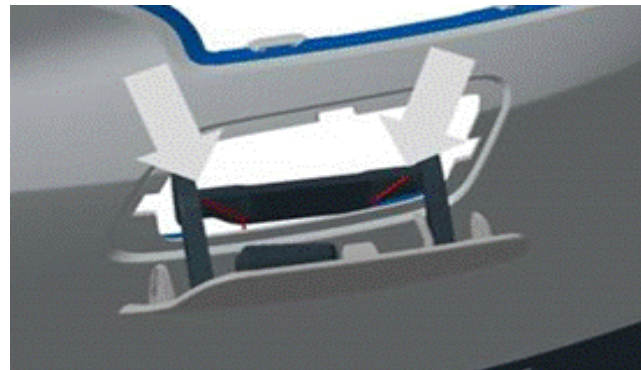

Figure 5. Old version cover spring clip.
4. Make an attempt to relieve the pressure exerted on the headlamp washer system nozzle cover with your finger. If the nozzle retracts on its own check the cover spring clip version. Figure 5 shows the old version which has been found to exert excessive pressure and prevent smooth nozzle retraction.